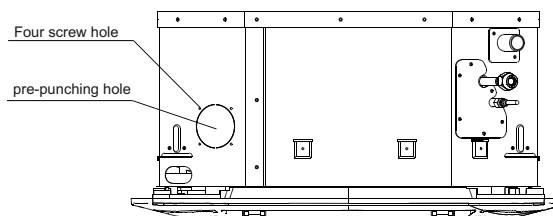

Fig.27
- Using a tool to knock off the pre-punching hole. (Refer to Fig.27)
- Four screw hole reserved for installation. (Refer to Fig.27 )